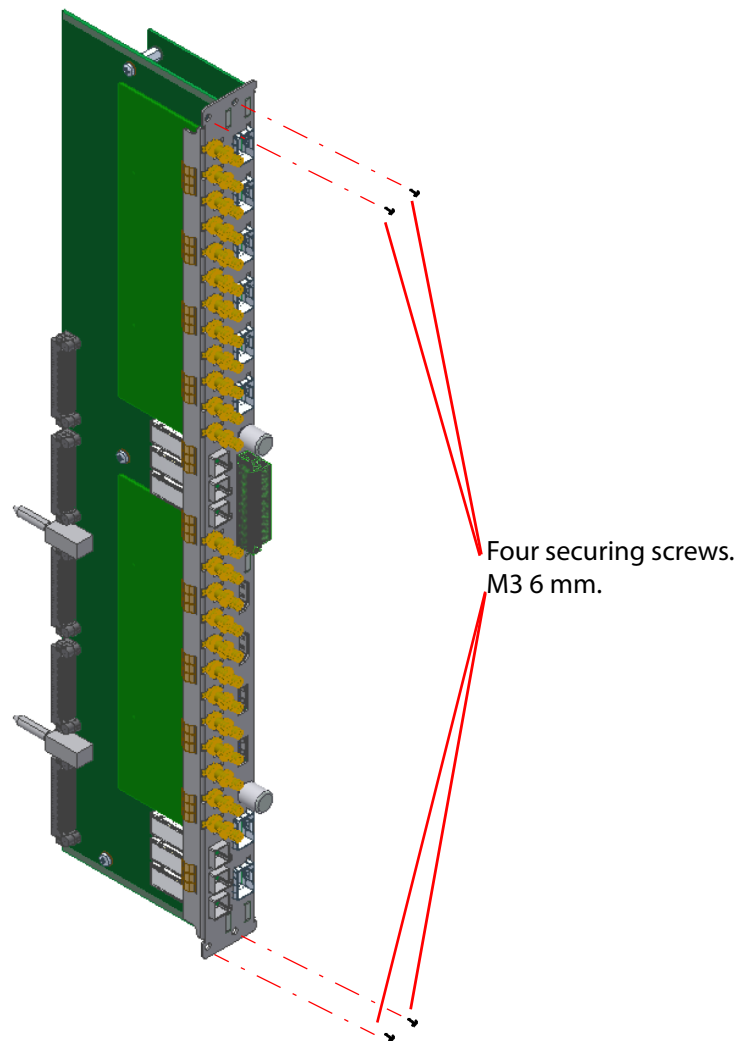

Figure 24 'MV-840/850-RP' Rear Panel module
Check the orientation of the rear module, see Figure 24.
4. Fasten the MV-840/850 rear panel module in position with four securing screws, see Figure 24.